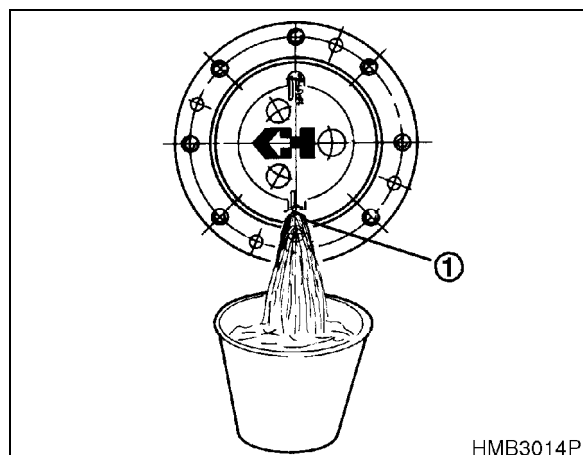

Figure 79
1. Drive machine onto a level surface. Position wheels on axle being drained so that axle end level plugs (1, Figure 79) are in the lowest position. Apply parking brake. Block wheels.